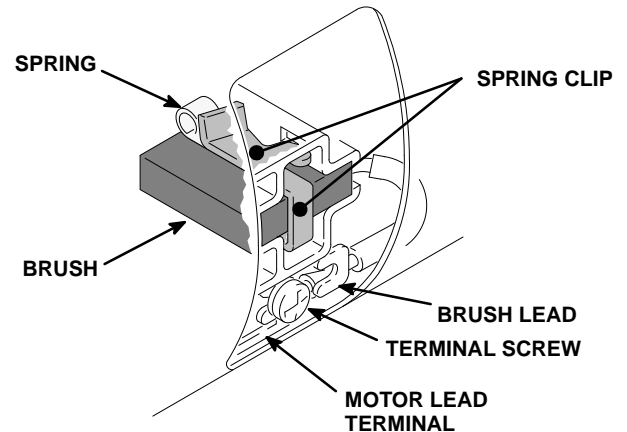

Fig 25-3
NOTE: Replace the brushes when they have worn to less than 1/2 in. See STEP 1, Fig 25-3. Note that the brushes wear differently on each side of the motor, so check them both. Brush Repair Kit 220-853 is available. A new spring clip, P/N 110-816 may be purchased separately.
4. Loosen the brush lead terminal screw. Pull the brush lead away, leaving the motor lead terminal in place. Remove the brush and spring. See Fig 25-3.
7. Slide the terminal under the terminal screw washer and tighten the screw. Be sure the motor lead is still connected at the screw. See Fig 25-3.